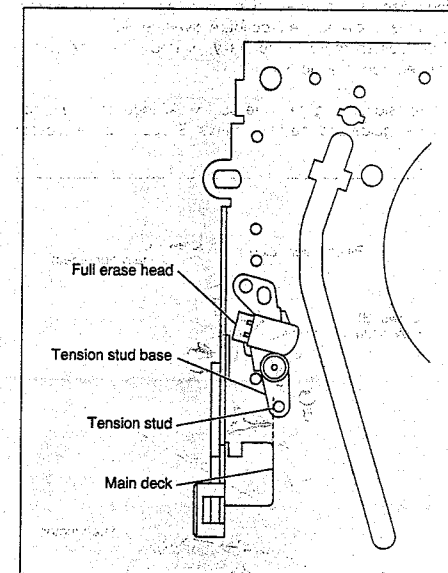

Fig. 2-4-9
- Adjust so that the left side of the tension stud is on the extension of the notch line of the main deck as indicated in Fig. 2-4-9.